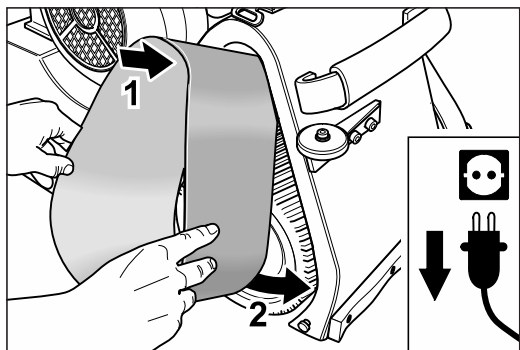
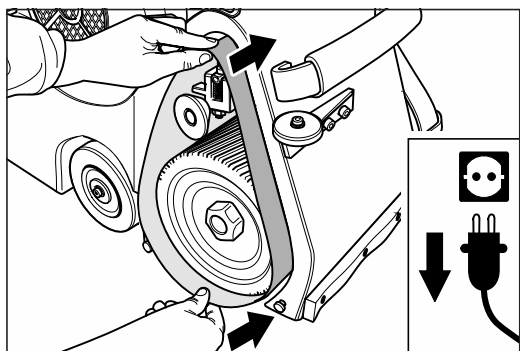

Fig. 12 Position the sanding belt on the tensioning roller of the drive unit. Similar to figure.
Fig. 13 Push the sanding belt over the tensioning roller and sanding drum. Similar to figure.
- 9 Position the sanding belt on the tensioning roller of the drive unit (fig. 12) and push it over the tensioning roller and the sanding drum (fig. 13).